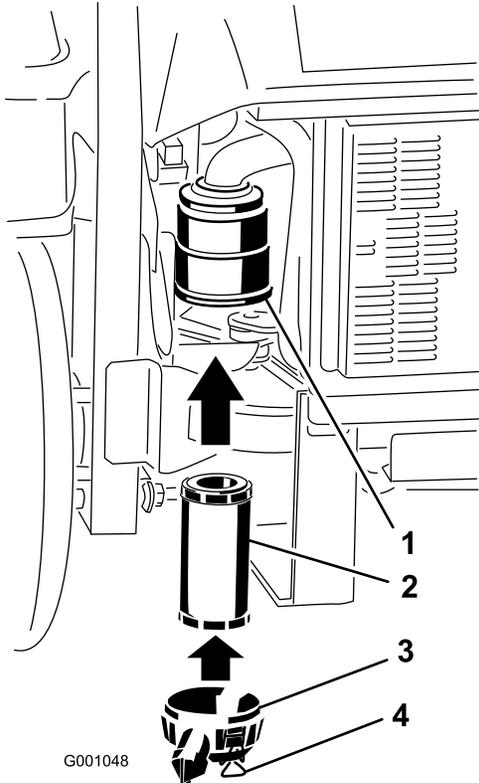

Figure 41
2. Carefully slide the filter into the filter body (Figure 41). Ensure that it is fully seated by pushing on the outer rim of the filter while installing it.
3. Install the air cleaner cover and secure the latches (Figure 41).